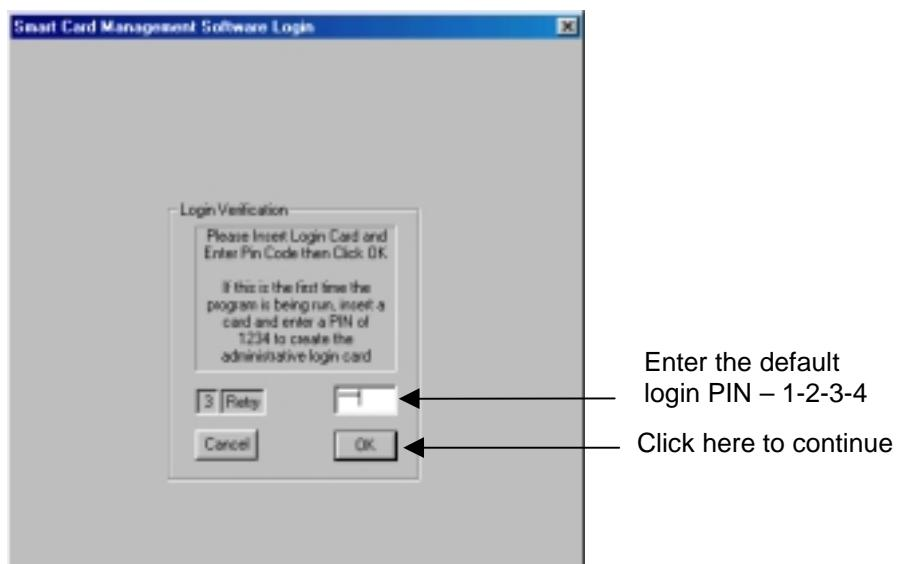

Figure 2.10 Login Window
4. Enter the 4-digit default PIN (Personal Identification Number), 1-2-3-4, and click the Ok button to begin SMS2 (Figure 2.10).
3. Enter the correct Personal Identification Number (Figure 2.10).
4. Click OK to start the software (Figure 2.10).